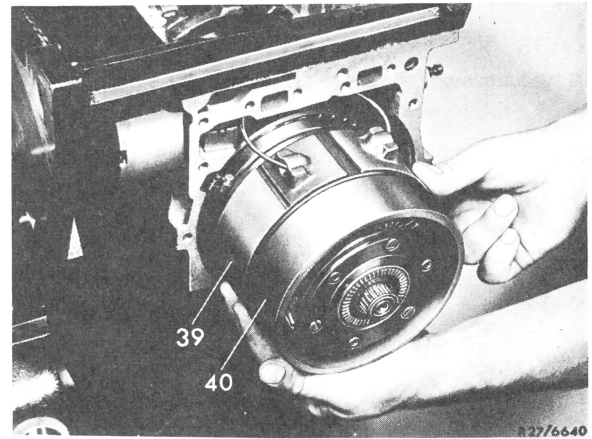

Fig. 13
**18** Clamp brake band B 1 (39) on drum in position by means of a circlip of brake band piston cover B 2 and remove gear assembly (40) from transmission case. Brake band B 2 will remain in transmission case (Fig. 13).